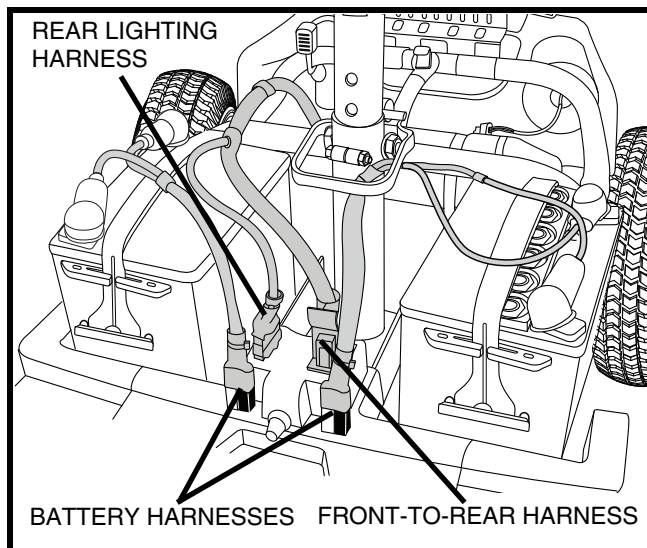

Figure 22. Harness Connections
5. Unplug the front-to-rear and rear lighting harnesses by squeezing the sides and pulling straight up. See figure 22.
6. Unplug both battery harnesses. Pull each harness straight up. See figure 22.
7. Connect the front-to-rear harness, rear lighting harness, and both battery harnesses. See figure 22.